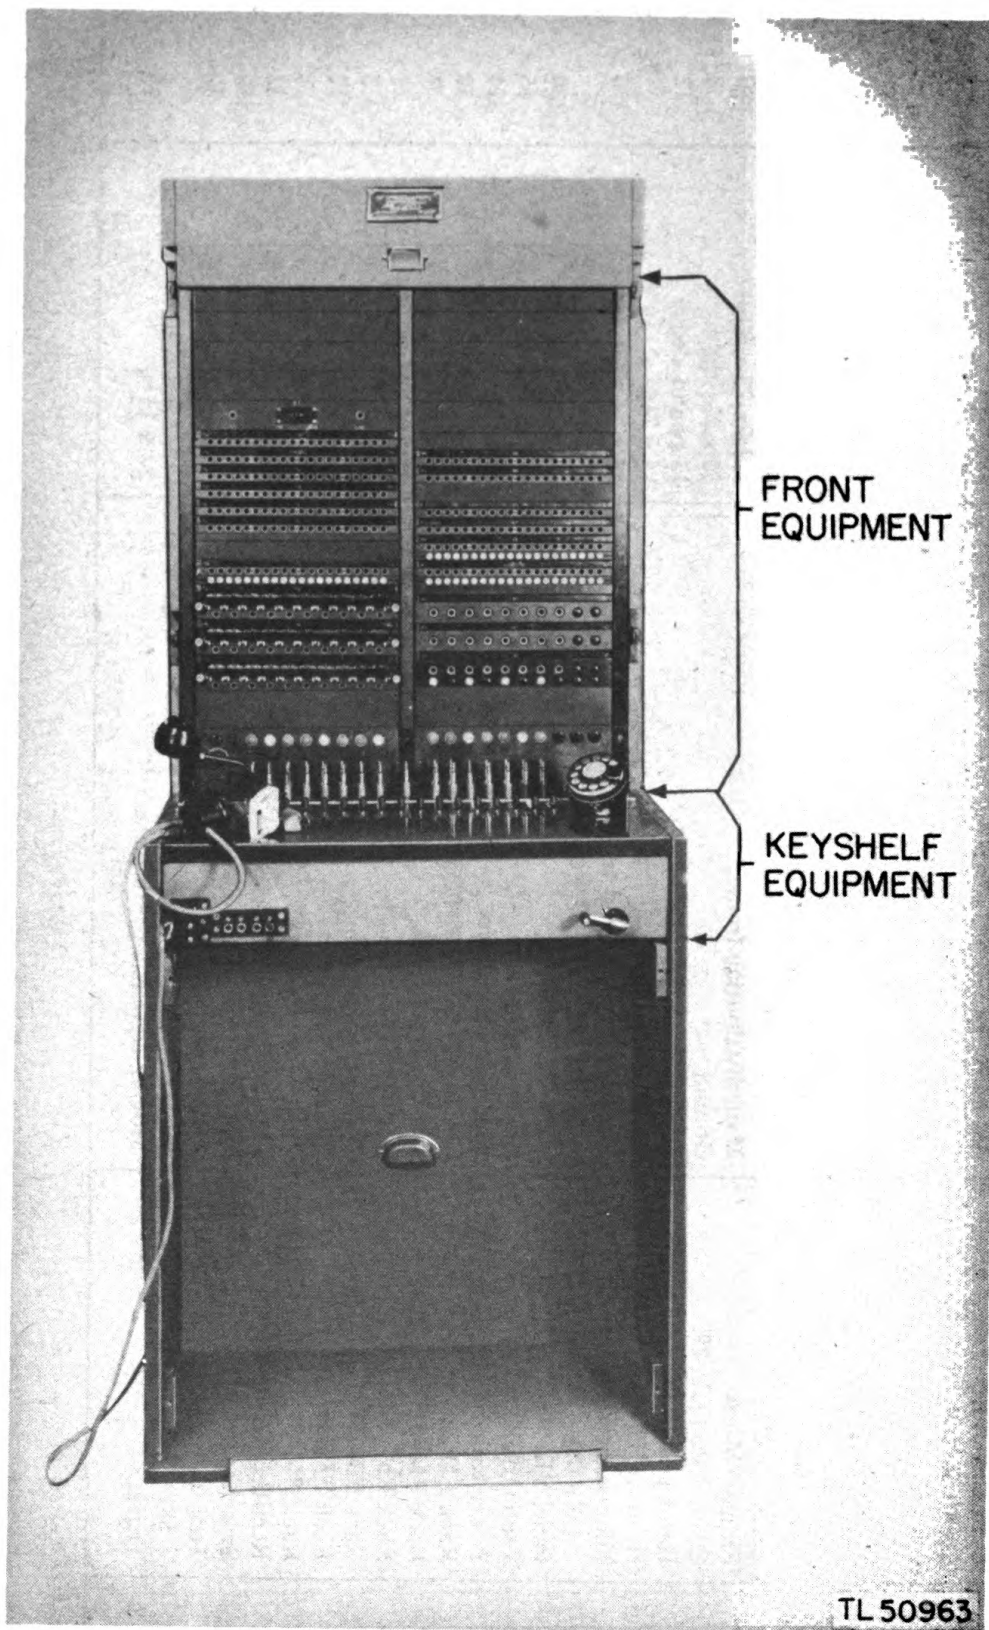

Figure 2. Switchboard BD-110-(), front view.
a. Switchboard BD-110-() (figs. 2, 3, 20, and 21) is a single-position, two-panel, manually operated telephone switchboard. It has a steel frame inclosed in a trunk-type case with removable front, back, and top covers, and it does not require any additional covering for transportation. The lower section of the switchboard contains the cords and a rack upon which are mounted the cord circuit relays, operator's telephone circuit apparatus, universal trunk circuit apparatus, and switchboard fuses. The upper section of the switchboard is occupied by the jack and signal equipment, the cabling therefrom, and the terminal panel. The terminal panel is formed by one section which, supported by top bolts, can be swung out for access to the jack and signal equipment and wiring (fig. 3). The terminal panel provides 800 binding posts in 16 vertical rows of 50 binding posts per row. Lamp signals are provided for signaling on common-battery lines and trunks, and for magneto and common-battery supervision on cord circuits. Drop signals are provided for signaling on magneto lines. Multiple jacks are provided for use when two or more switchboards are used. The answering and multiple jacks are wired to binding posts on the terminal panel in the rear of the board. The multiple jacks are also wired to flexible cables which are equipped with spade terminal strips. These strips are arranged for connection to the binding posts on the terminal panel of the same or another switchboard. This arrangement permits making rapid multiple jack connections between switchboards. A smaller spade terminal strip with four flexible cables permits connections to battery, ringing, alarm, and grouping circuits. The cord circuits are fully universal, and can be used to interconnect all lines and trunks.